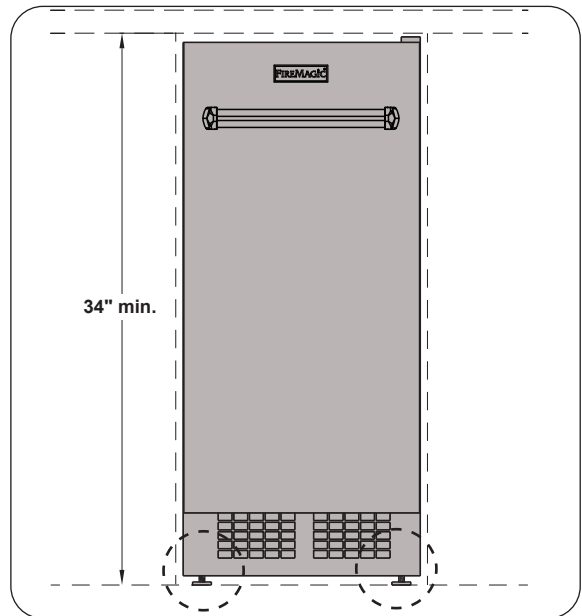

Fig. 10-2 Front view
9. Level the ice maker by adjusting the leveling legs: turn counterclockwise to raise the unit, or clockwise to lower it. See Fig. 10-2.